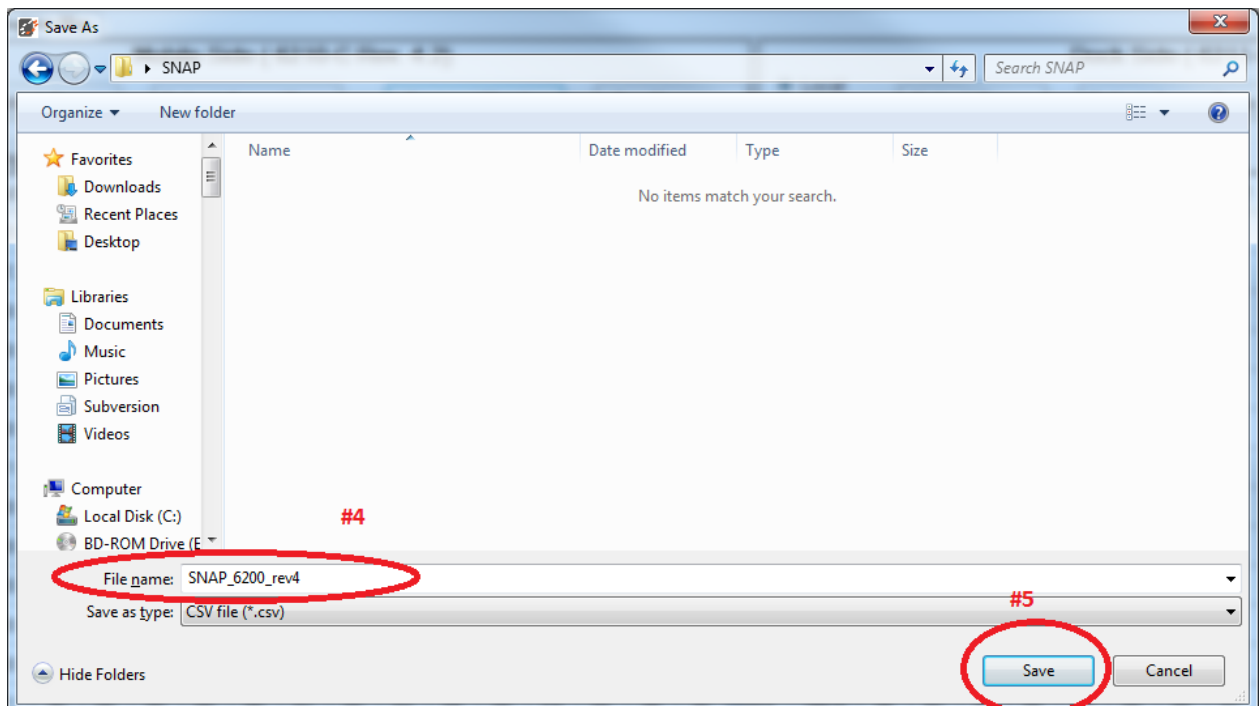

Figure 3.9. USB Register Map Save Registers Setting Page
- Select **File name** (4) (Figure 3.9) to store the Snap registers settings.
- Click the **Save** (5) (Figure 3.9) button to save the file.